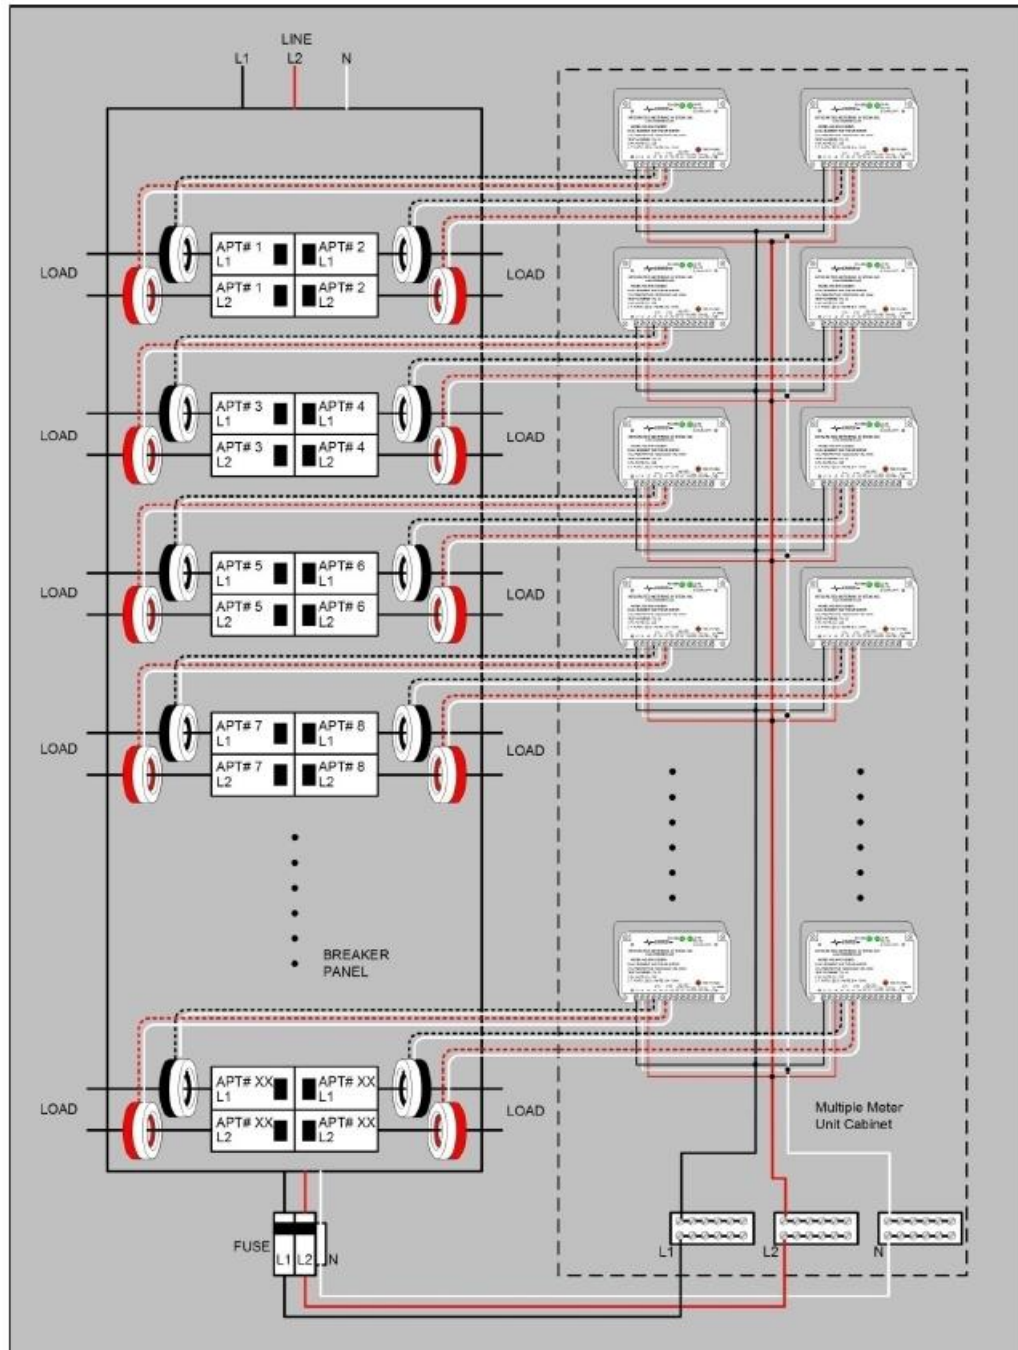

Figure 12: 2-phase (split phase), 3-wire hookup diagram
- For 3 Ph 4-wire electrical panels, see Figure 12 and follow factory-provided meterschedules for correct CT locations.